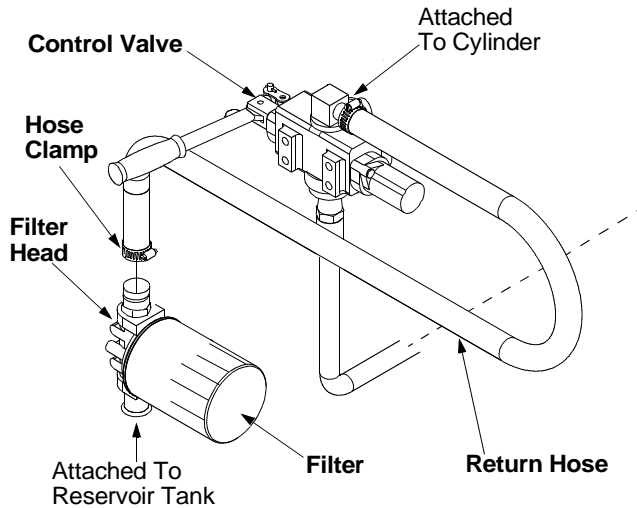

Figure 10
- Remove the protective cap from the fitting on top of the filter head. Attach the end of the hose to the fitting on top of the filter. Place the hose clamp at the base of the fitting and tighten securely. See Figure 10.